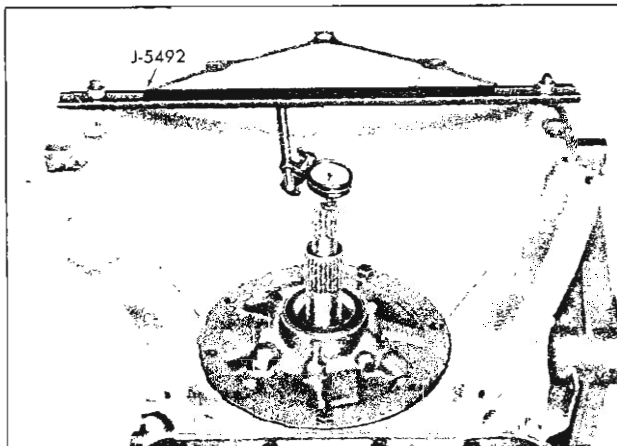

Fig. 38PG—Checking End Play for Proper Thrust Washer Selection
- a. Mount a dial indicator so that plunger of indicator is resting on end of the input shaft. J-5492 may be used to support the dial indicator as shown in Figure 38PG. Zero the indicator.